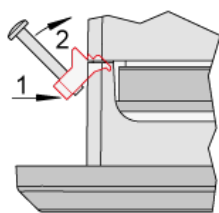

Fig. 11: Attach clamp inserts
5. ➔ Re-install the clamp inserts by tilting the insert to a 45° angle. (Fig. 11/1) Insert the nose of the insert into the slot on the side of the housing. (Fig. 11/2) Raise the clamp insert so that it is parallel to the control panel.